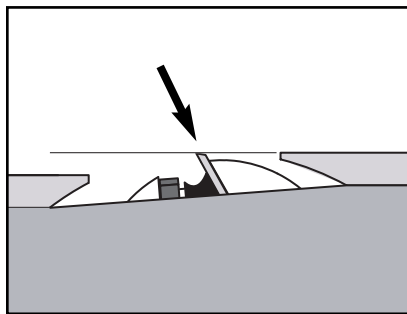

Figure 9. Top dead center position.
11. Rotate the cutterhead so the blade edge is at the top-dead-center of its rotation shown in **Figure 9**.